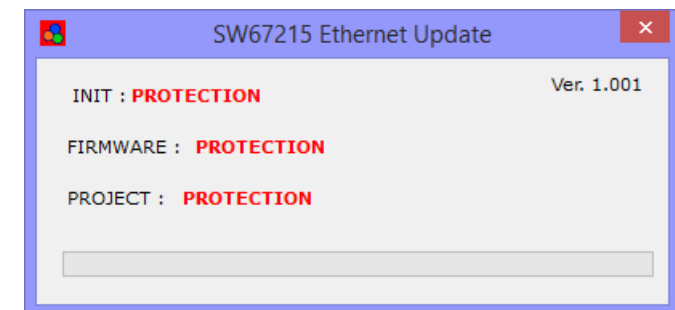

Figure 9: "Protection" window
**Warning:** If Fig. 9 appears when you try to do the Update try these points before seeking assistance: